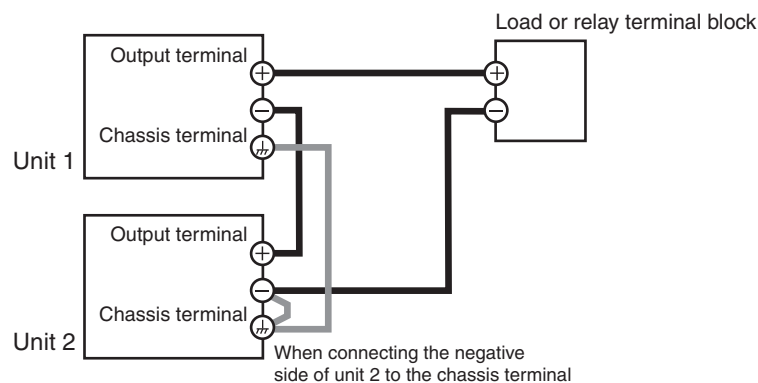

Fig.4-9 Load connection for series operation
- 3 As shown in Fig.4-9, connect the load and the PAT using the load wires. Use load cables with sufficient current capacity. Connect the load wires at the shortest length possible. If the voltage drop in the output cable is large, the difference in the potential between power supply units and the load effect become large.